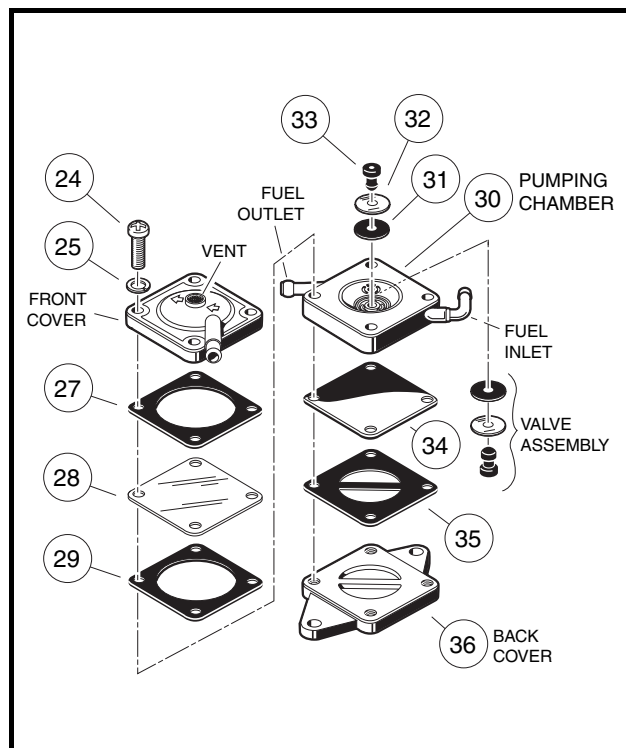
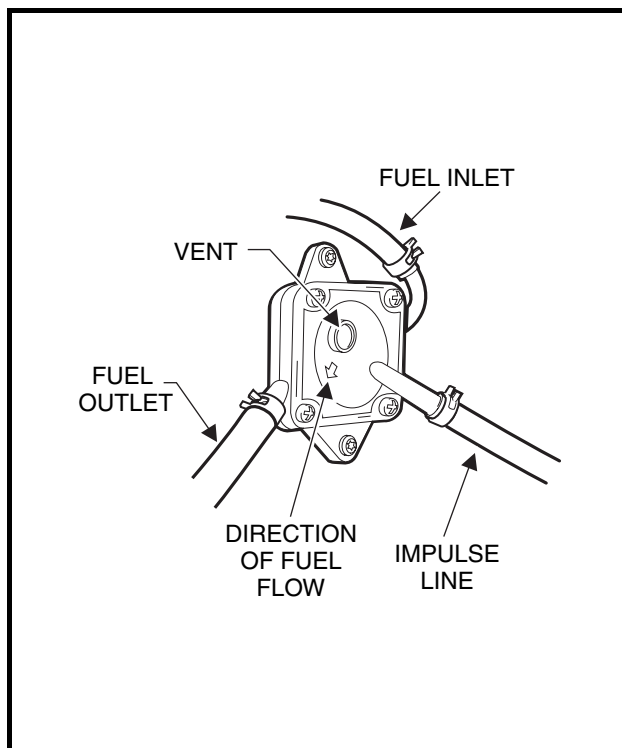

Figure 14-9 Fuel Pump
Figure 14-10 Fuel Pump Orientation
1. Remove four screws (24) and lock washers (25) from front of the fuel pump (**Figure 14-9, Page 14-16**).
- If the impulse gasket (27) and the diaphragm (28) come off with the front cover, note their orientations and remove them (**Figure 14-9, Page 14-16**).
- Remove the pumping chamber (30).
- Remove the back cover (36), the fuel diaphragm (34), and gasket (35) (**Figure 14-9, Page 14-16**).
- Inspect the valve assemblies (31, 32, and 33) and all gaskets and diaphragms for damage (**Figure 14-9, Page 14-16**).
- If a valve assembly is damaged, the rubber retaining plug (33) and valve assembly must be replaced.
1. Install the fuel gasket (35) and diaphragm (34) on the back cover (36) (**Figure 14-9, Page 14-16**).
2. Install the valve assembly in the pumping chamber (30). **See following CAUTION.**
- **If the valve assembly is not installed exactly as shown (Figure 14-9, Page 14-16), the impulse fuel pump will not operate properly.**
3. Install the pumping chamber (30) on top of the fuel diaphragm (34). Be sure the fuel inlet and the fuel outlet align with the arrows on the front of the front cover (**Figure 14-9, Page 14-16**).
4. Install the gasket (29), clear impulse diaphragm (28), and the paper impulse gasket (27) to the pumping chamber (30).
5. Install the front cover and then the lock washers (25) and four screws (24) on the assembly. Be sure the arrows on the front cover point from the fuel inlet to the fuel outlet (**Figure 14-10, Page 14-16**). Tighten the screws to 26 in-lb (3.0 N·m).
NOTE: Be sure to connect the fuel line (10), that comes from the fuel filter (7), to the inlet nipple on the pump. Direction of fuel flow is indicated by the arrows on the fuel pump (**Figure 14-8, Page 14-13**). See also **Figure 14-10, Page 14-16**.